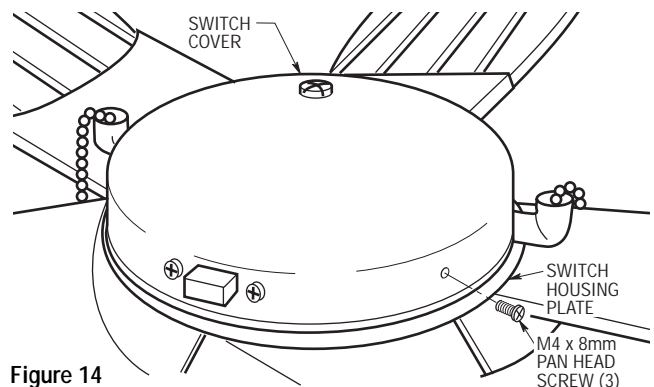

Figure 14
- 17. Position the switch cover on the switch housing plate and align the holes. Secure the switch cover by installing the three M4 x 8mm pan head screws (Figure 14).